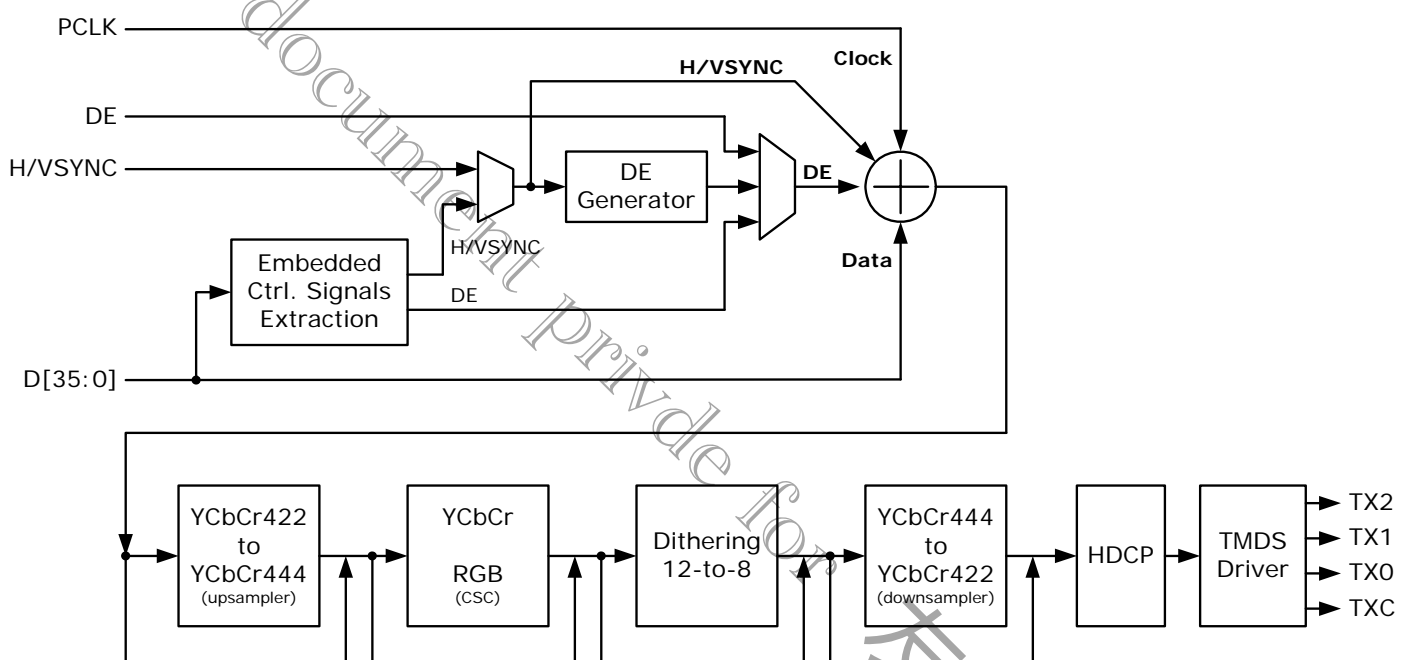

Figure 3. Video data processing flow of the IT6613
Figure 3 depicts the video data processing flow. For the purpose of retaining maximum flexibility, most of the block enablings and path bypassings are controlled through register programming. Please refer to IT6613 Programming Guide for detailed and precise descriptions.
As can be seen from Figure 3, the first step of video data processing is to prepare the video data (Data), data enable signal (DE), video clock (Clock), horizontal sync and vertical sync signals (H/VSYNC). While the video data and video clock are always readily available from input pins, the preparation of the data enable and sync signals require special extraction process (Embedded Ctrl.